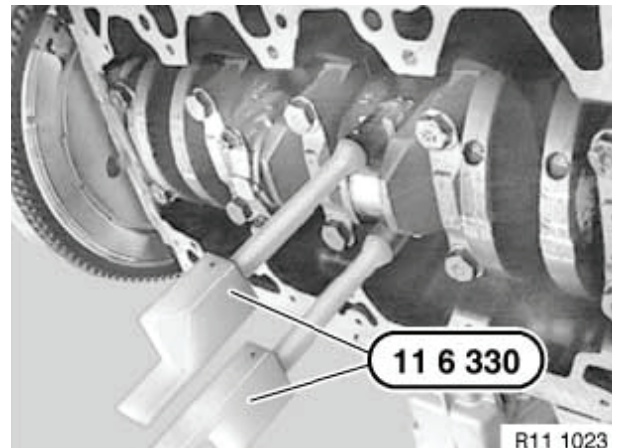

Figure 5-60
9. Remove special tool OEM No. 11 6 330 (**Figure 5-60**).